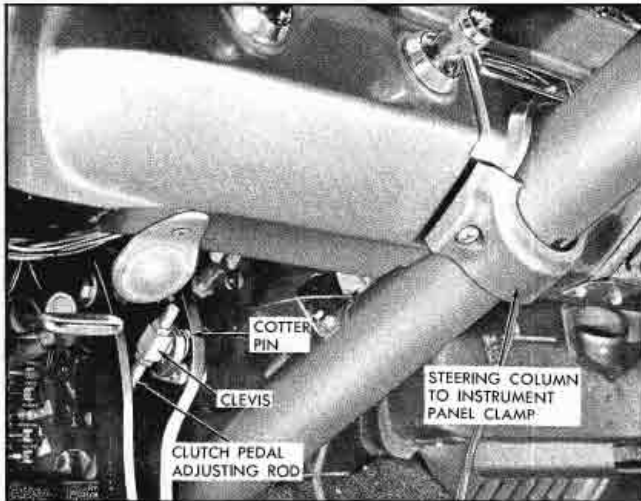

Fig. 7-14 Steering Column to Instrument Panel Clamp
7. Remove two steering column bracket to instrument panel attaching screws and washers and remove bracket and insulator (Fig. 7-14).
10. Disengage clutch rod at clutch pedal by removing cotter pin (Fig. 7-14).